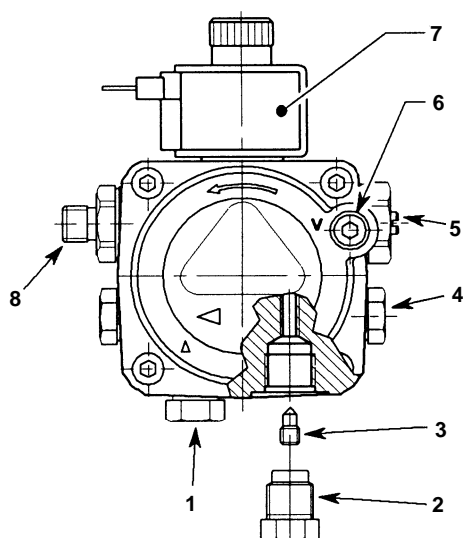

Fig. 7 - RDB pump
See Fig. 7
- 1 The fuel pump is supplied for use with a single pipe fuel supply system. For use on a two pipe system, it is necessary to fit the By-pass screw (see Fig. 7) into the tapping in the return port.